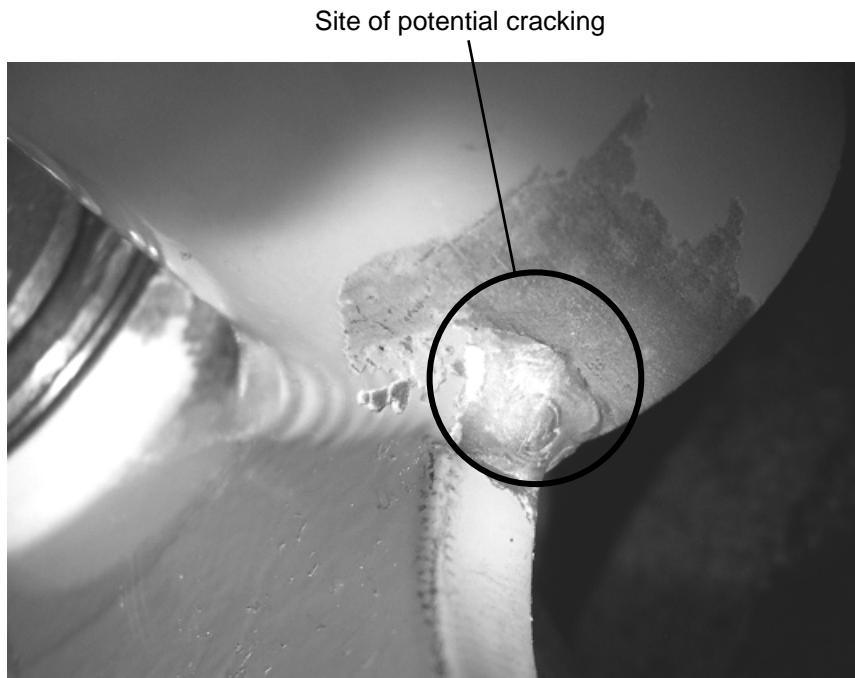

FIGURE 1 RUDDER PEDAL WELD ASSEMBLY
- 1) The rudder pedal weld assembly should be checked around the welds, at the rudder cable pulley, using a dye penetration technique. An example of the potential cracking is shown in Figure 1.